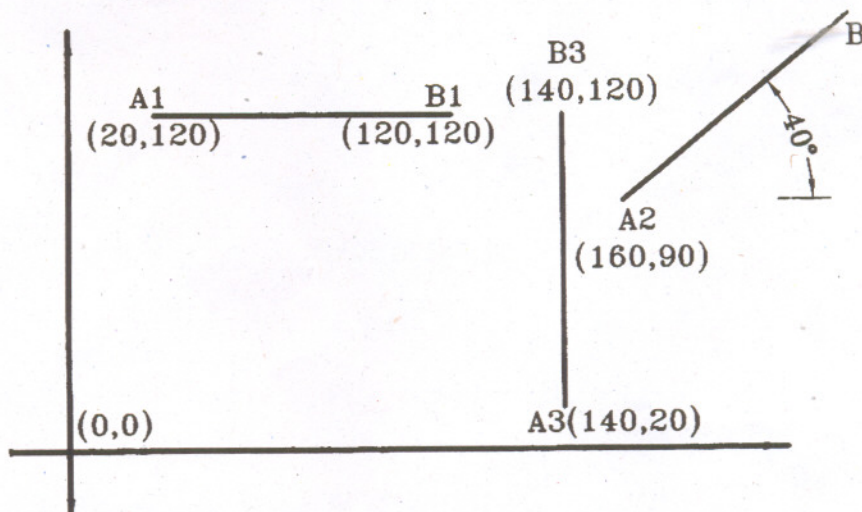

Fig. 7
- (c) Fig. 7 shows three positions of link AB. Its length is 100 mm. It is to be moved through the successive positions A_1B_1 , A_2B_2 and A_3B_3 with co-ordinates as shown. Graphically synthesize a four bar mechanism with link AB as its coupler. Find out the co-ordinates of the ground pivots in the same reference frame. Also find lengths of input and output links. Draw the mechanism in its second position. [6]